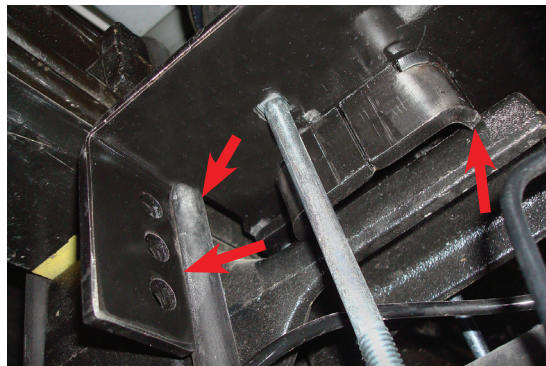

fig. D.15
1. With the vehicle supported by jack stands, drop the axle or raise the body so that the assemblies can be put into position in between the axle and frame. Set the driver's (left) side and passenger's (right) side assemblies into position so that the lower bracket cup rests on the jounce bumper strike plate. Push the lower bracket so that it is flush against the leaf spring stack. The flanges on the lower bracket main plate should lock on the sides of the U-bolt (Fig. D.15).